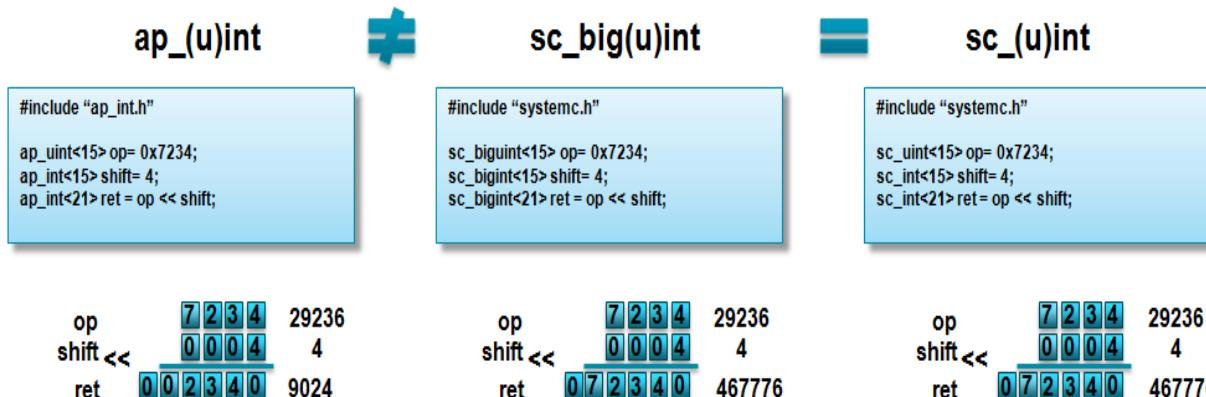

Figure 3-14: Over-Shift Left Differences
- Figure 3-14 shows an example of this operation for both Vivado HLS and SystemC types.